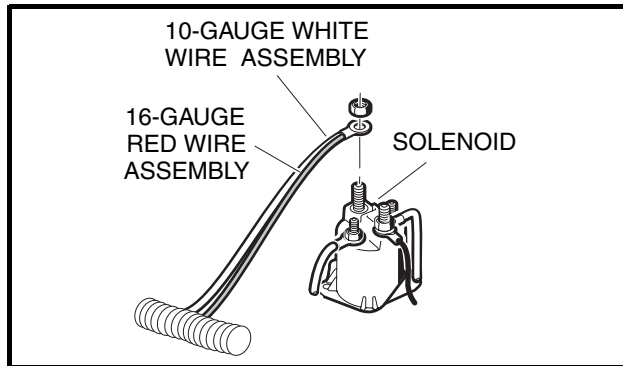

Figure 11-15 Solenoid Wire Removal
4. Remove the 10-gauge white wire (crimped with a 16-gauge red wire) from the large post of the solenoid. Do not allow the wires to touch the frame or other components of the vehicle (**Figure 11-15, Page 11-19**).